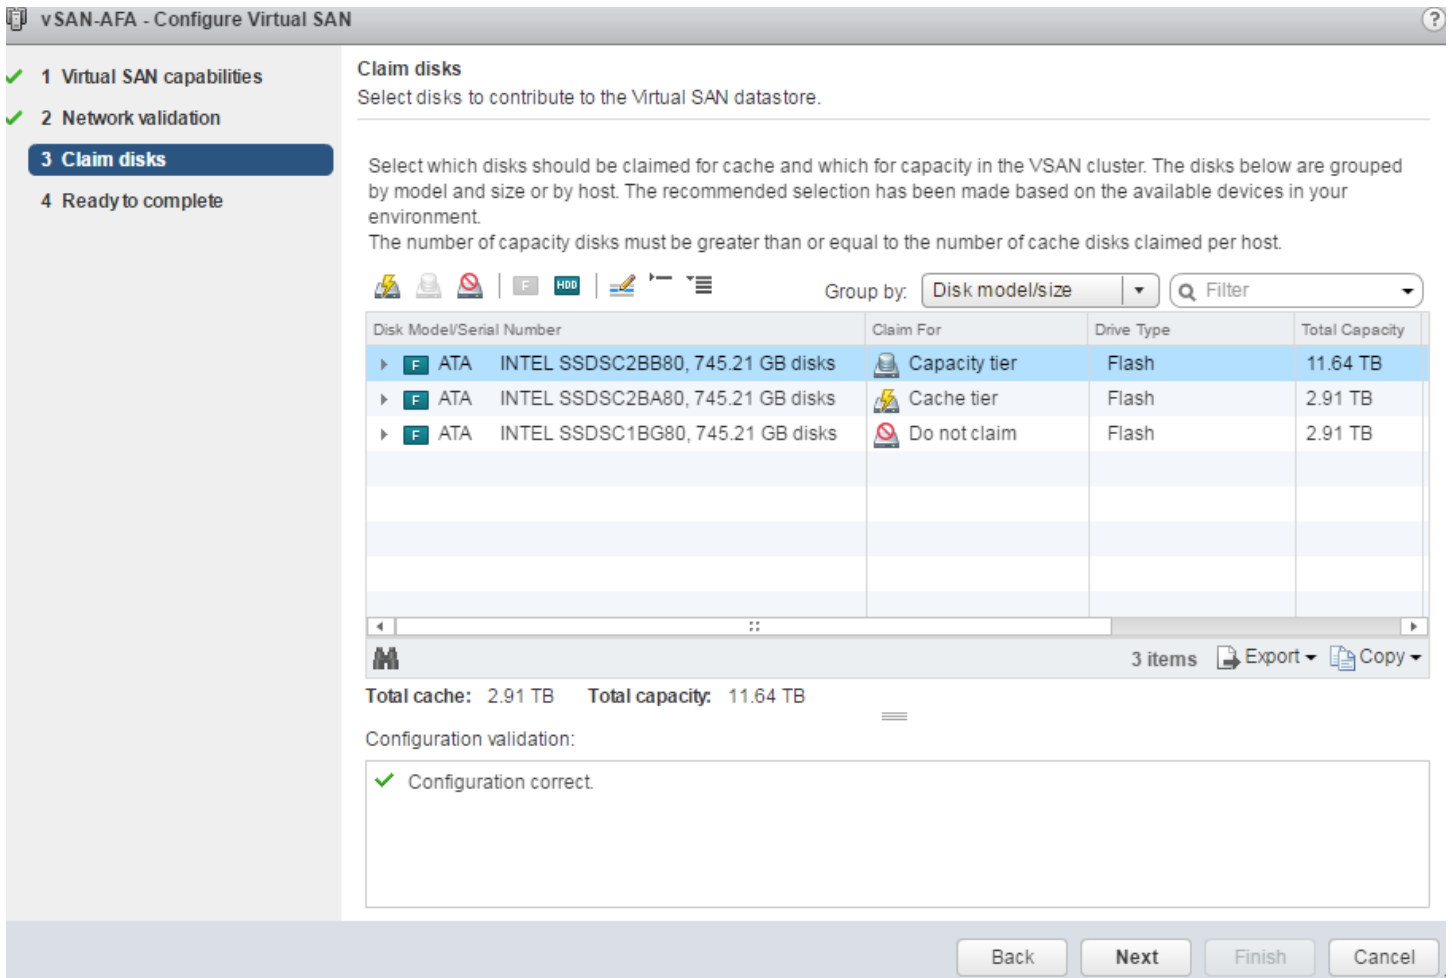

Figure 40 Configure Virtual SAN disk group management
- d. In Figure 40, four disk groups are created, one for each host. For the first disk on the first host, Cache Tier is selected. Capacity Tier is selected for the remaining seven disks. When all groups have been configured, make sure there is a green checkmark in the Configuration validation box as shown in Figure 40.